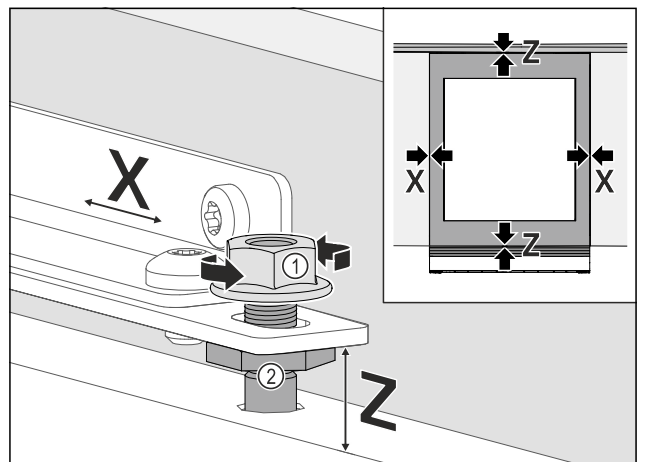

Fig. 104
- ▶ Align the unit door sideways: Loosen lock nut Fig. 104 (1), move unit door in X direction.
- ▶ Tighten the lock nuts *Fig. 104 (1)*.
- ▶ Align the unit door in height **Z** and in the lateral inclination: Adjust the adjustment bolt *Fig. 104 (2)*.